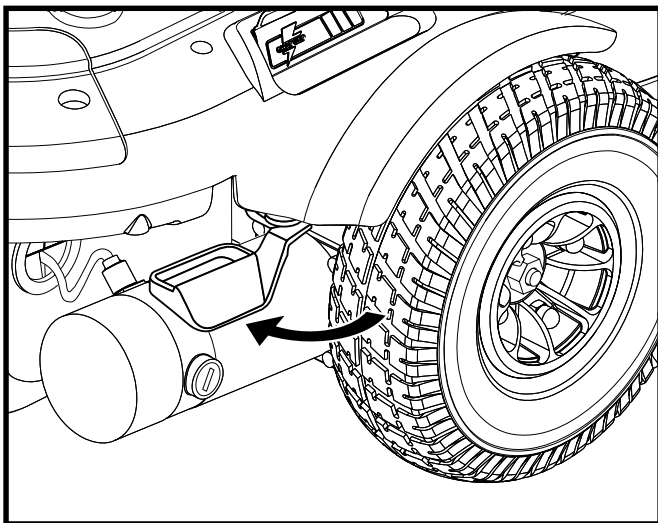

Figure 8. Drive Mode (Drive Engaged)
2. Push the two levers inward to engage the drive motors. See figure 8.